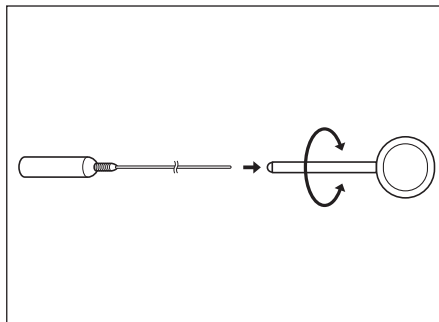

Figure 3.12
5. Screw, by turning clockwise, the proximal end of the magnet unit into the tool inlet at the distal end of the magnet control section. (see Figure 3.12)